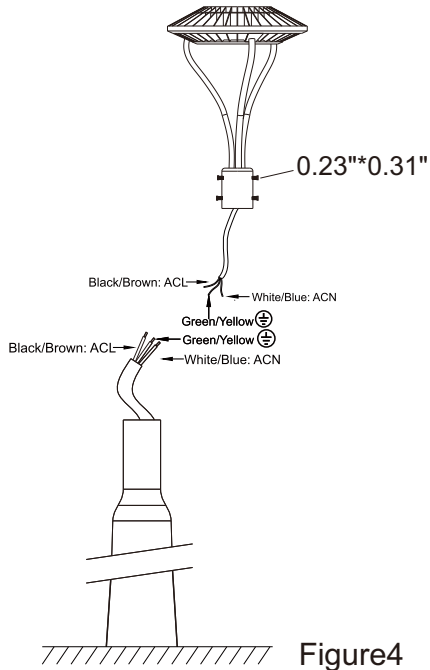

Figure 4
4. Loosen the handle screw and connect the corresponding LN wire to make it waterproof (Figure 4)